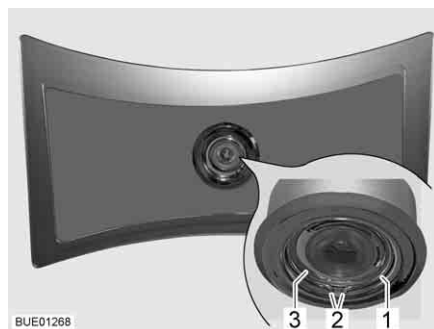

Fig. 265 Ceiling lamp
- Press the two ends (Fig. 265,2) of the spring ring (Fig. 265,1) together and remove.
- Remove the housing (Fig. 265,3) with LED from the lamp.